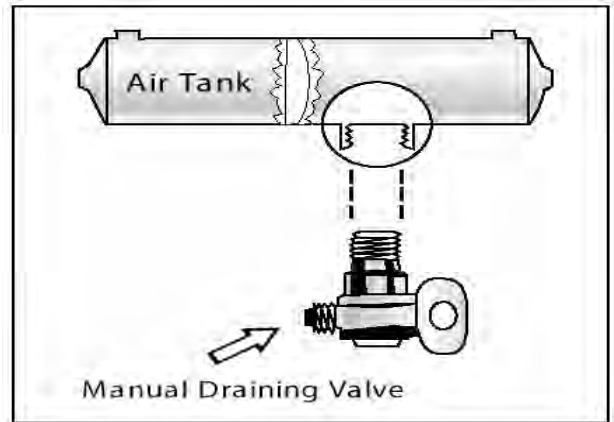

Figure 5.1
- **Manually operated** by turning a quarter turn or by pulling a cable. You must drain the tanks yourself at the end of each day of driving. See Figure 5.1.